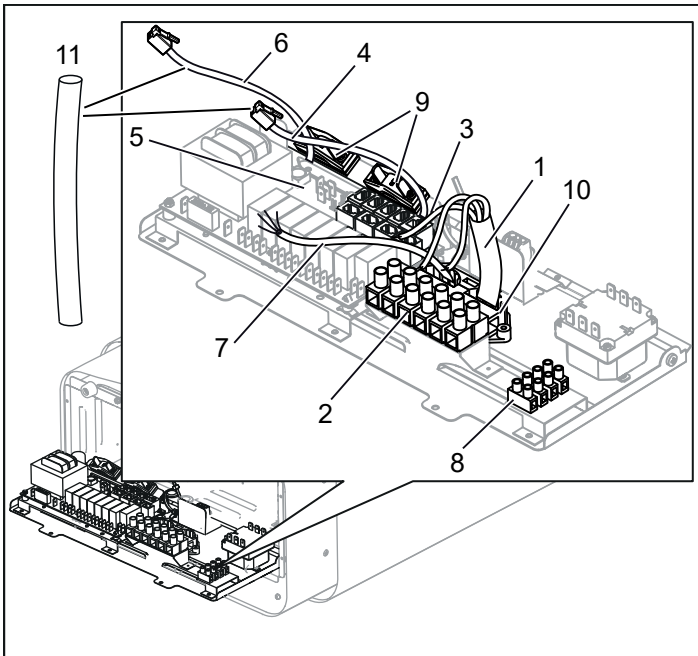
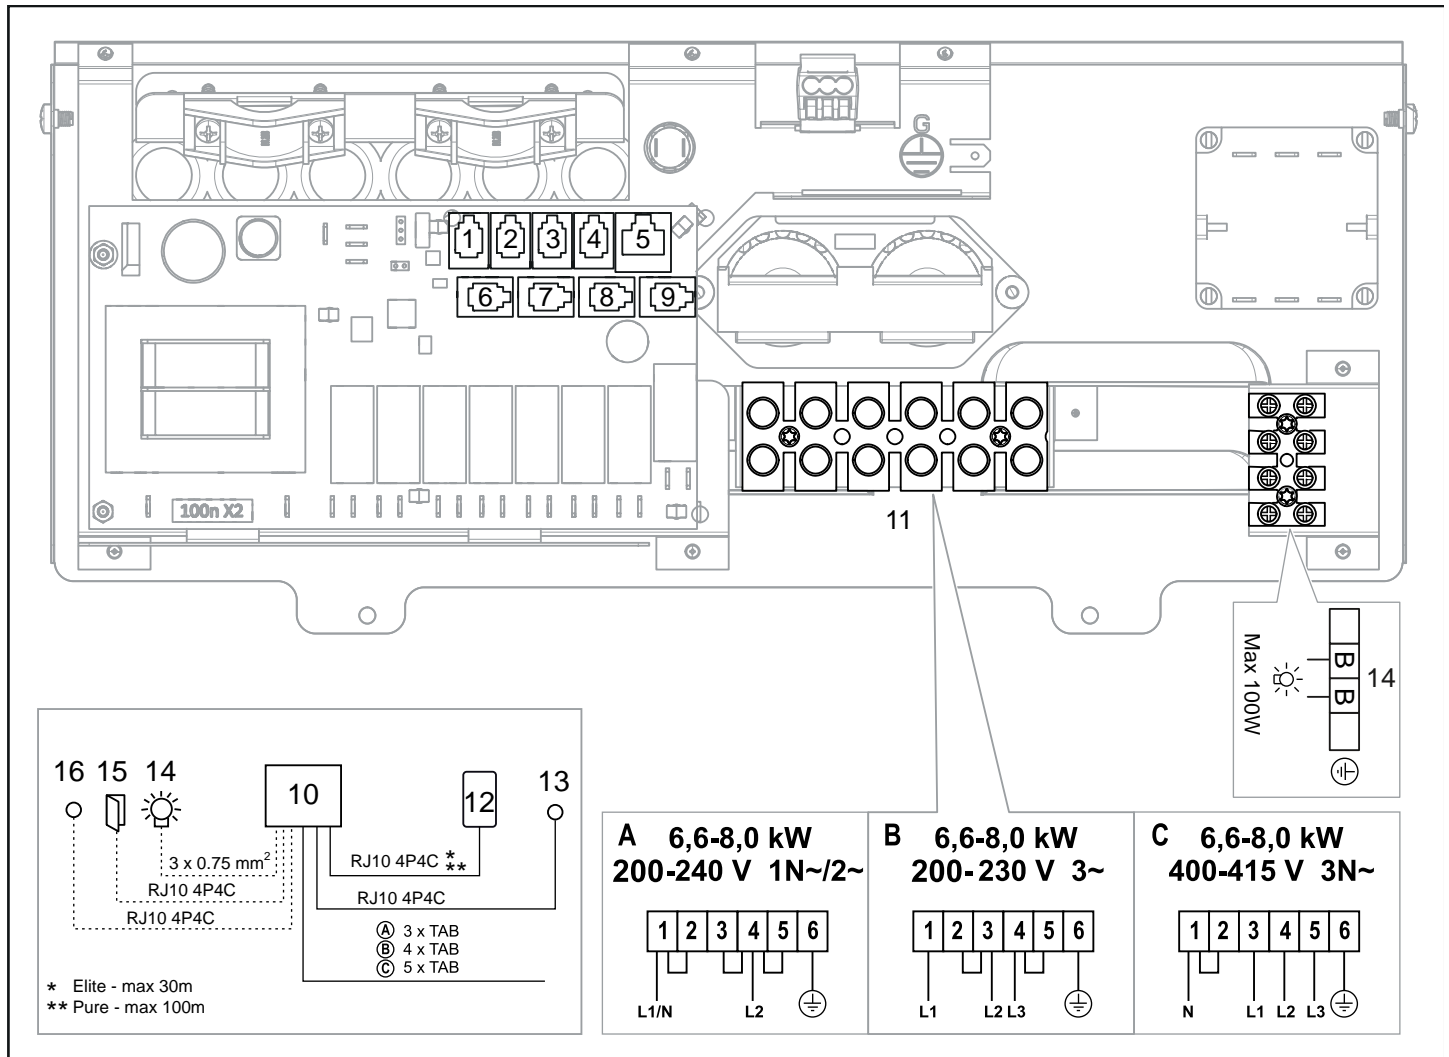

Figure 9: Circuit board
Figure 17: Wiring diagram
3. Connect the electrical cable (1) to the terminal (2) (see Figure 9) according to the wiring diagram (see the Connection/wiring diagram section, page 15).
- Run the cables for the control panel and the temperature sensor through the cable grommets (3). Connect the control panel cable (4) to one of the four RS485 contacts (positions 6-9) (see Figure 9) according to the wiring diagram (see the Connection/wiring diagram section).
- Connect the sensor cable (6) to the NTC contact on the circuit board (position 1) (5) (see the Connection/wiring diagram section) according to the wiring diagram (see the Connection/wiring diagram section, page 15).
- Connect the light cable (if relevant) (7), see Figure 9, to the terminal (8) according to the wiring diagram Figure 17.
Contact Tylö Customer Service before connecting to voltages or numbers of phases that are not listed in the wiring diagram Figure 17.